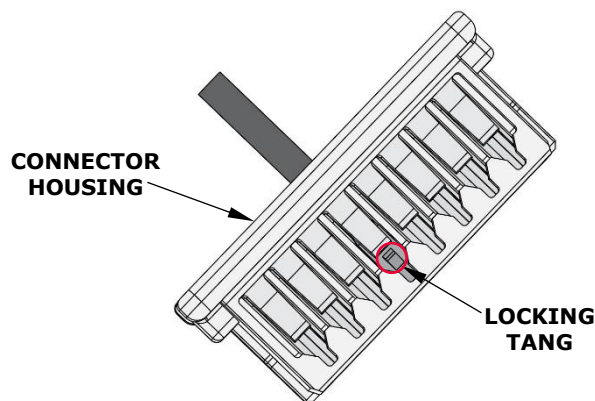

Figure 6
1. Hold the housing with the terminal locking tangs facing up. See Figure 6.